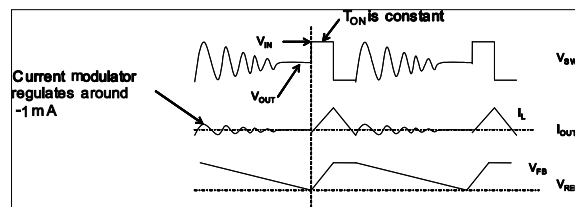

Figure 3—DCM Operation
DCM operation is shown in Figure 3. When V_{FB} is below V_{REF} , the HS-FET turns on for a fixed interval, which is determined by the one-shot on timer. See Equation (1). When the HS-FET is turned off, the LS-FET is turned on until the inductor current reaches zero. In DCM operation, the V_{FB} does not reach V_{REF} when the inductor current is approaching zero. The LS-FET driver turns into tri-state (high Z) when the inductor current reaches zero. A current modulator takes over the control of the LS-FET and limits the inductor current to less than -1 mA. Hence, the output capacitors discharge slowly to GND through the LS-FET. As a result, the efficiency during the light-load condition is improved greatly. The HS-FET is not turned on as frequently during a light-load condition as it is during a heavy-load condition (skip mode).